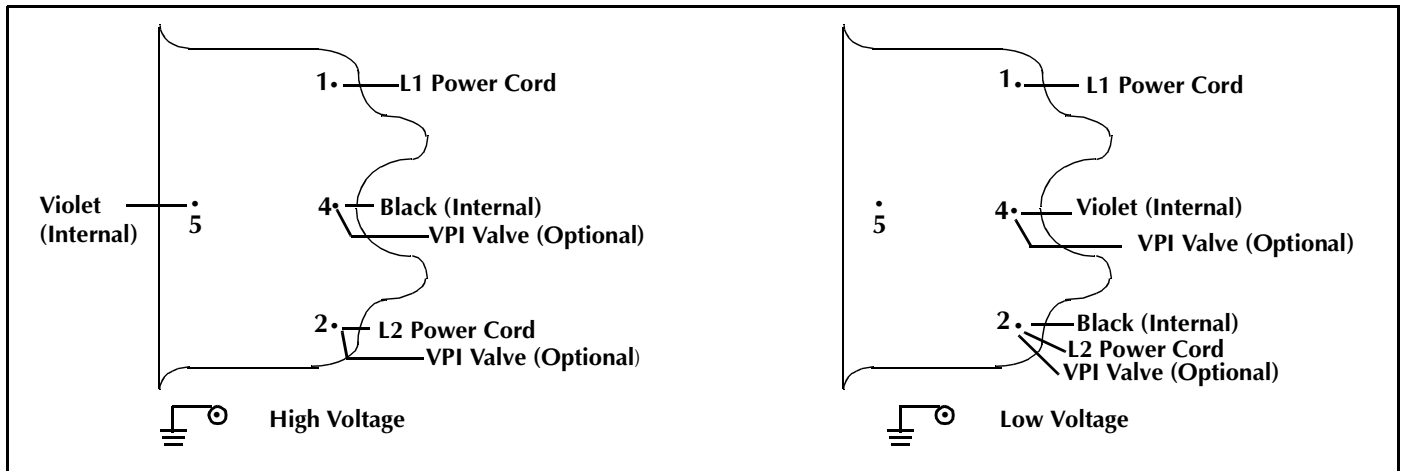
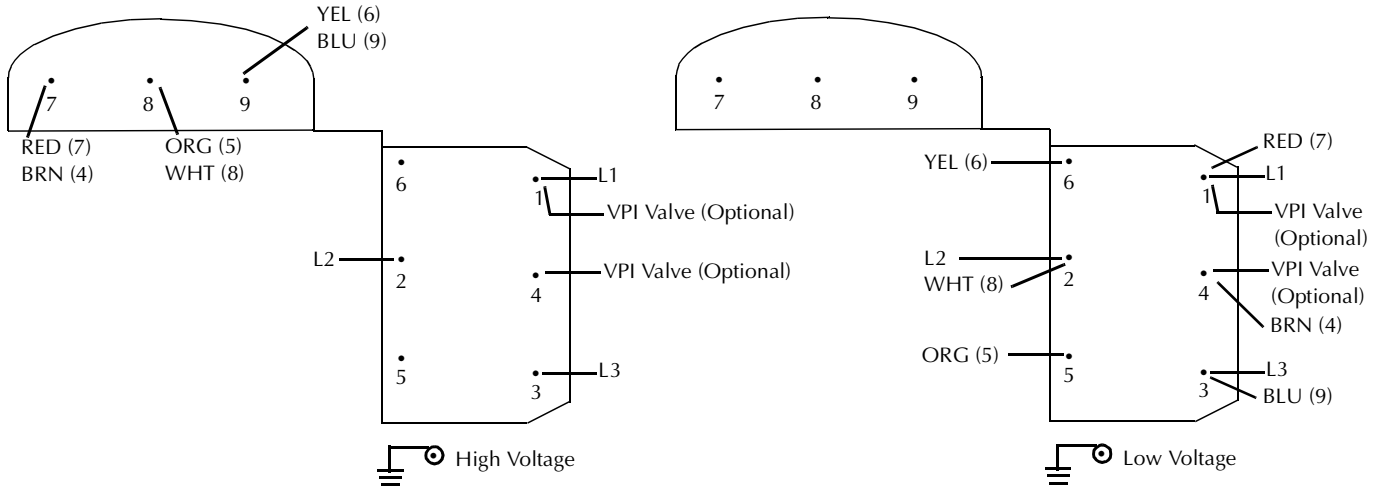

Figure 4 Single Phase Motor Electrical Connections
Figure 5 Three Phase Motor Electrical Connections
The pump can be configured for low voltage, 100 VAC to 115 VAC, or for high voltage, 200 VAC to 230 VAC. Low voltage exists between connection points "4" and "Line 2" whether the pump motor is configured for low or high voltage. Figure 4 shows the electrical connections for a single phase motor.
3. Refer to Figure 4 to connect the motor to match your supply voltage.
4. Wire L1 and L2 per Figure 4 using right angle flag connectors or ring connectors.
The pump can be configured for low voltage, 200 VAC to 230 VAC, or for high voltage, 380 VAC to 415 VAC and 460 VAC. As supplied from the factory, the pump is configured for low voltage. Figure 5 shows the electrical connections for three phase motor.
3. Refer to Figure 5 to connect the motor to match your supply voltage.
4. Wire L1, L2 and L3 per Figure 5 using right angle flag connectors or ring connectors. Ensure that no exposed wiring is close to the electrical cover or to other terminals on the board.
6. Install the motor electrical cover and secure it with three (3) screws removed in step 2.
Using the data in Table 19, verify that the VPI Valve chosen is compatible with the TriScroll supply voltage and frequency. Then, locate the proper wiring diagram to use (Figure 4 on page 36 or Figure 5 on page 37).
2. Connect the VPI Valve solenoid wire leads to the pump motor as shown in Figure 4 or Figure 5.